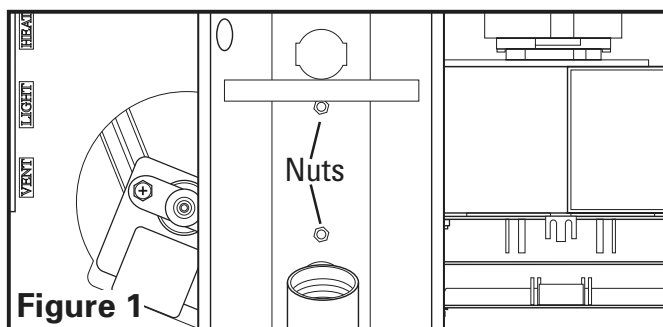

Figure 1
2. Remove the two hex nuts holding the light reflector in place. Keep the reflector and nuts in the carton until needed so they do not get damaged or lost. **(Figure 1).**